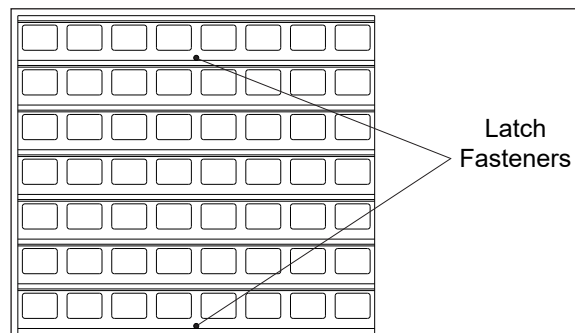

Figure 20: Module Front View
1. Loosen the latch fasteners on the front face of the LED module using a 1/8" hex wrench. One latch fastener is centered below the top row of pixels, and one is centered above the bottom row (**Figure 20**).